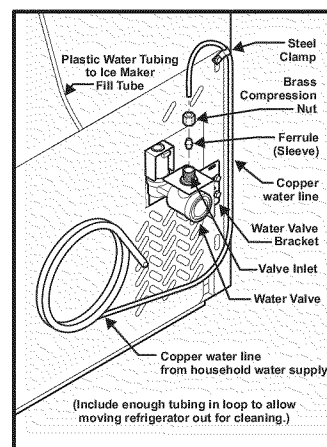

Figure 1
4. **If you use copper tubing** - Slide brass compression nut, then ferrule (sleeve) onto water supply line. Push water supply line into water valve inlet as far as it will go (¼ inch/6.4 mm). Slide ferrule (sleeve) into valve inlet and finger tighten compression nut onto valve. Tighten another half turn with a wrench; **DO NOT** over tighten. See Figure 1.